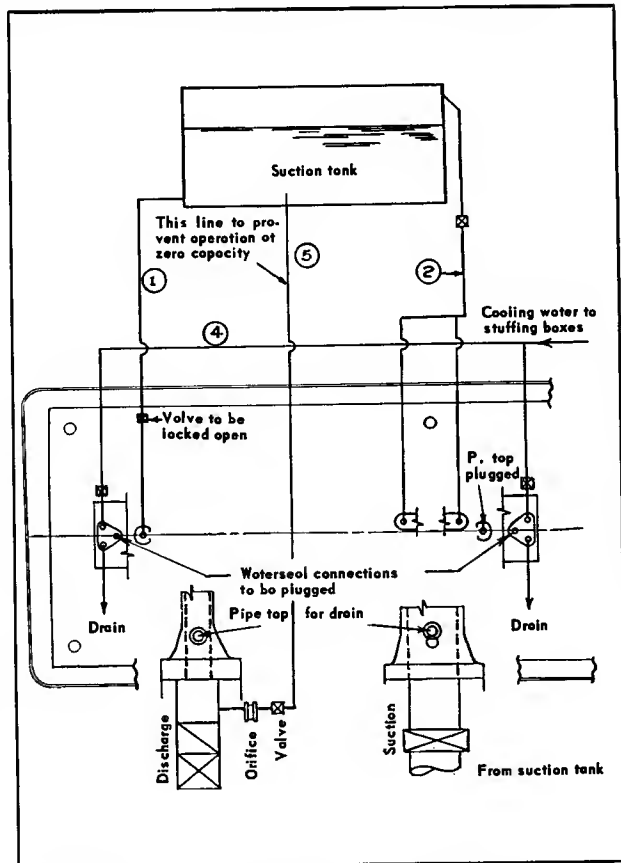

Fig. 8 — Recommended vent lines for multi-stage boiler feed pumps.
2. By-Pass to Suction Supply (Fig. 8, line 5)
3. Cooling Water to Stuffing Boxes (Fig. 8, 9, line 4)
4. Stuffing Box Water Seal Connection (Fig. 8, 9)